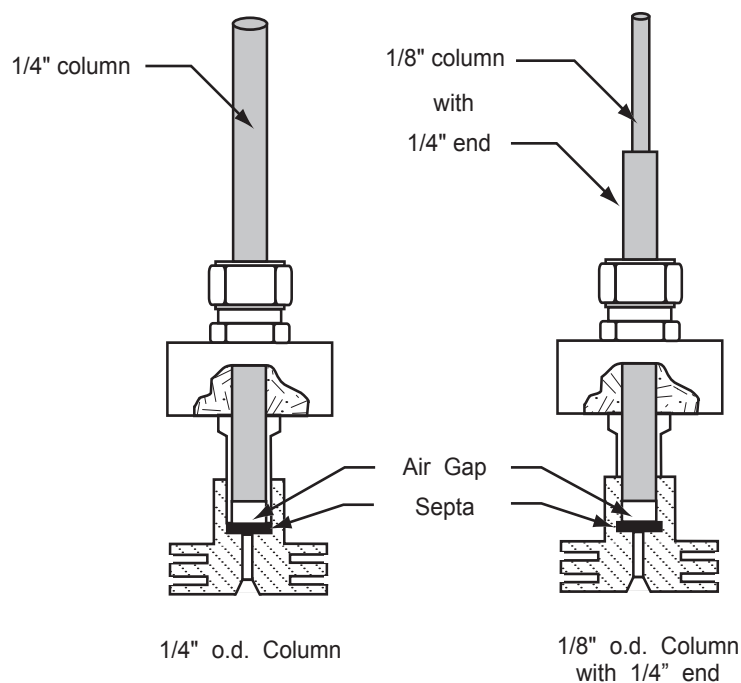

Figure 9-2
- B. Figure 9-2 shows the injection port for low dead volume utilizing on-column injection. Either 1/4" or 1/8" o.d. columns can be used as shown. All 1/8" o.d. columns are furnished with 1/4" adapters.